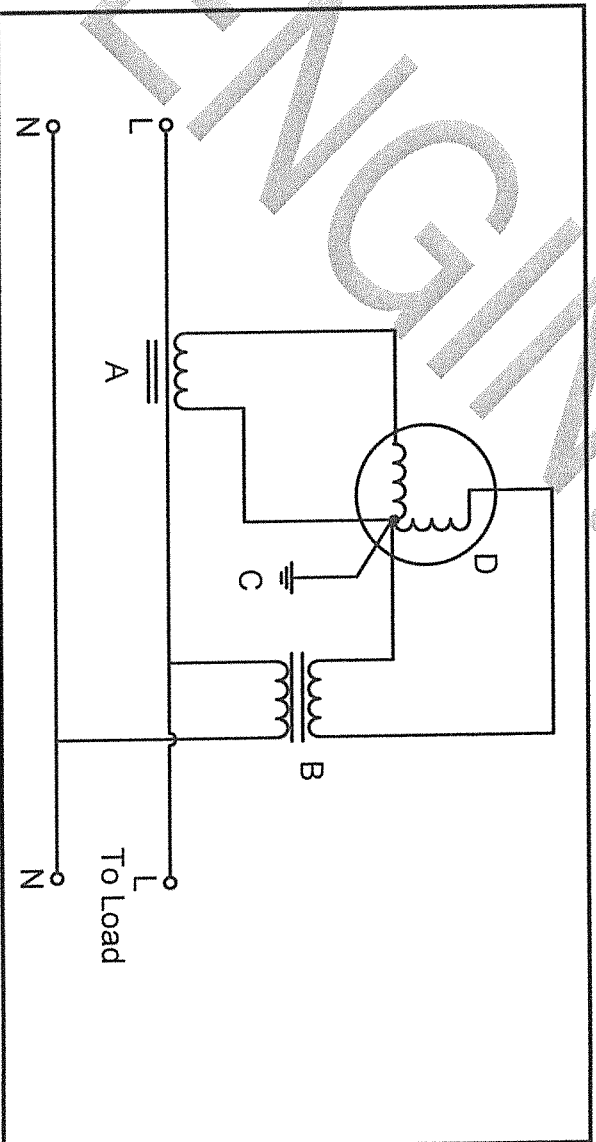

FIGURE 10.1: POWER MEASUREMENT
10.1 Study the circuit in FIGURE 10.1 and answer the following questions.